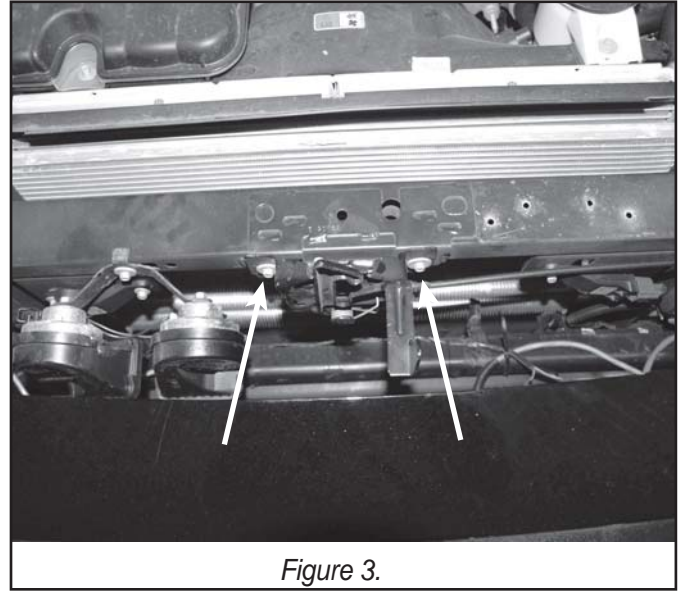

Figure 3.
3. Remove 2 bolts that fasten hood latch to radiator cross bar. See figure 3 for details.